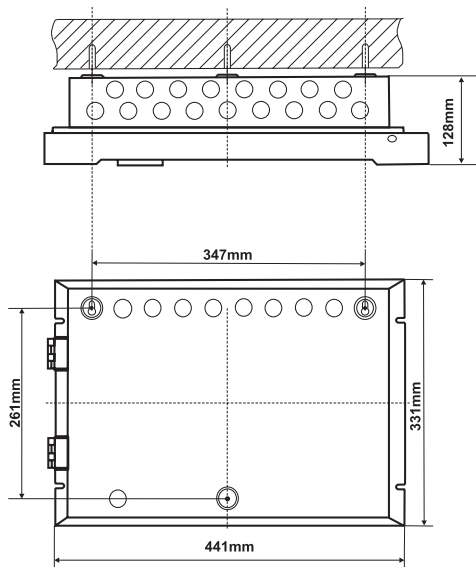

Figure 5.
- Drill  $\varnothing 6$ -8mm diameter openings in the wall and fix the box using the provided anchors and screws (Positions 2 and 4, page 31) - Figure 5.